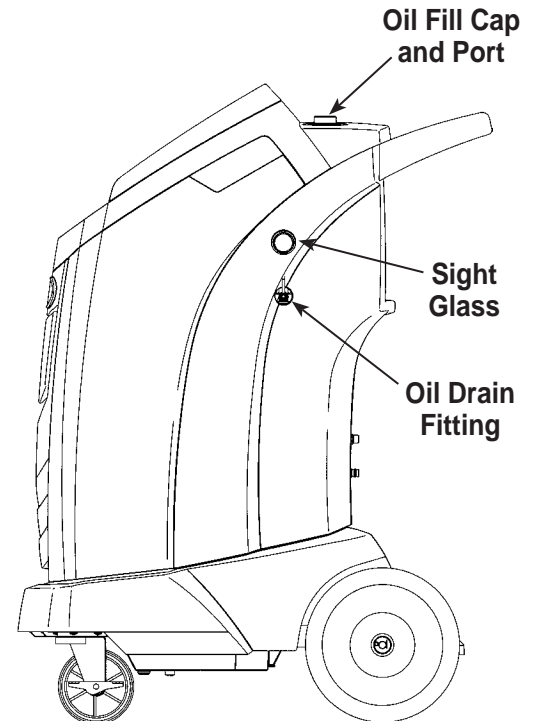

Figure 13
3. After the compressor stops, **slowly** open the oil fill cap to verify there is no pressure in the machine. Then carefully remove the cap. See Figure 13.